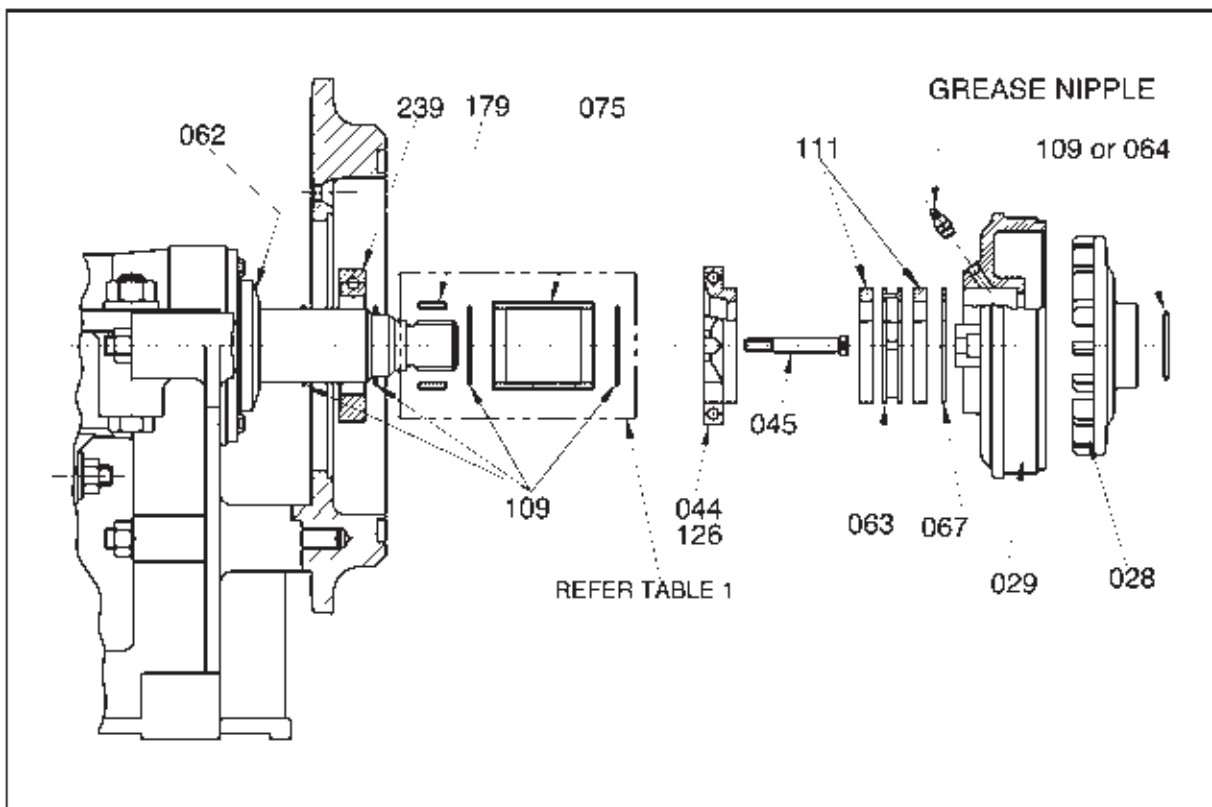

Fig.5 Centrifugal seal assembly
Refer figs 5 and 6
Fig 5 shows a typical assembly of shaft components, indicating the relative position of parts on the pump shaft, which varies according to pump size. Table 1 lists shaft components for a **gland sealed pump** in the order in which are fitted to the shaft, commencing at the end face of the **labyrinth** (062) on the pump end of the bearing assembly. Pumps with similar sets of shaft components are grouped together in the table. Generally, in **centrifugally sealed pumps**, the same sets of component parts apply as for **gland sealed pumps**, except for substituting the **expeller** (028) for the **shaft spacer** (117). Exceptions to the general case are listed in table 2.